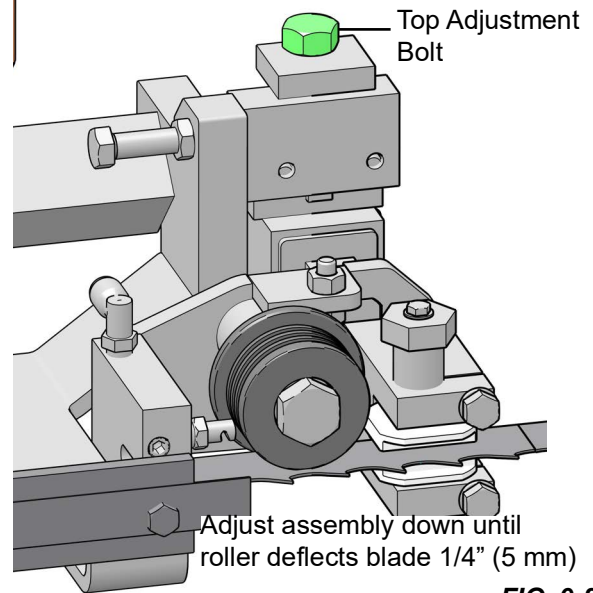

FIG. 9-28
3. Turn the top adjustment bolt counterclockwise to lower the assembly until the blade guide roller deflects the blade down until the bottom of the blade measures 14 3/4" (370 mm) from the bed rail. See FIG. 9-28.
The saw head should still be adjusted so the blade is 14 3/4" (375 mm) above the bed rails. See FIG. 9-28.